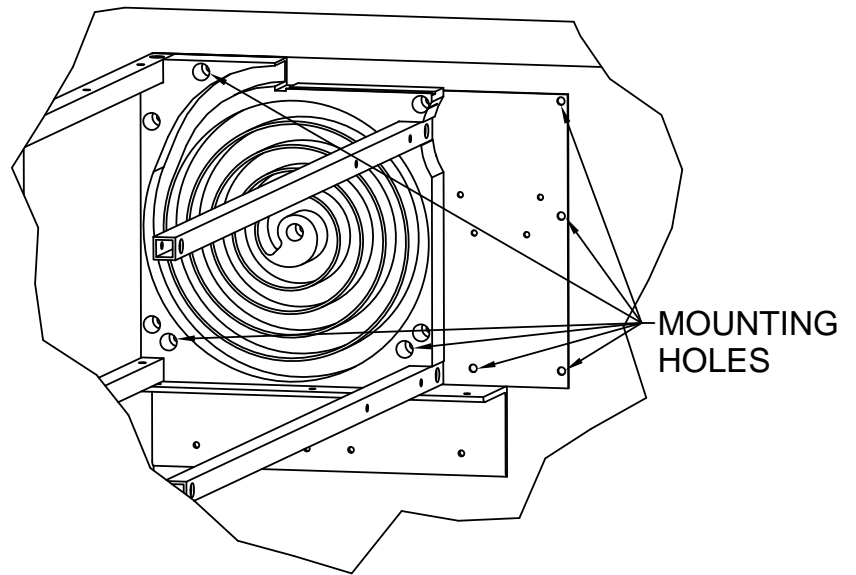

Figure 2 – Mounting Holes
- c) Attach each side with a minimum of four 1/4" fasteners in mounting holes see Figure 2.